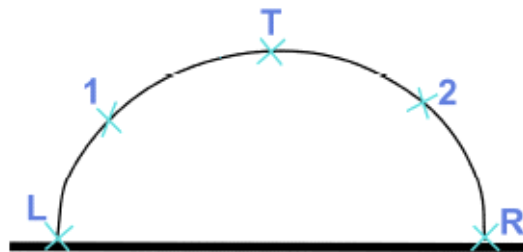

Figure 8. Manual fit of the droplet boundary.
- Sometimes auto-calculation using AUTOFAST ICON is not accurate, so manual calculation is necessary. To calculate manually, use the mouse to place five markers around the droplet. Markers are placed around the droplet by selecting the symbol and dragging it to the correct position, as shown in Figure 8.